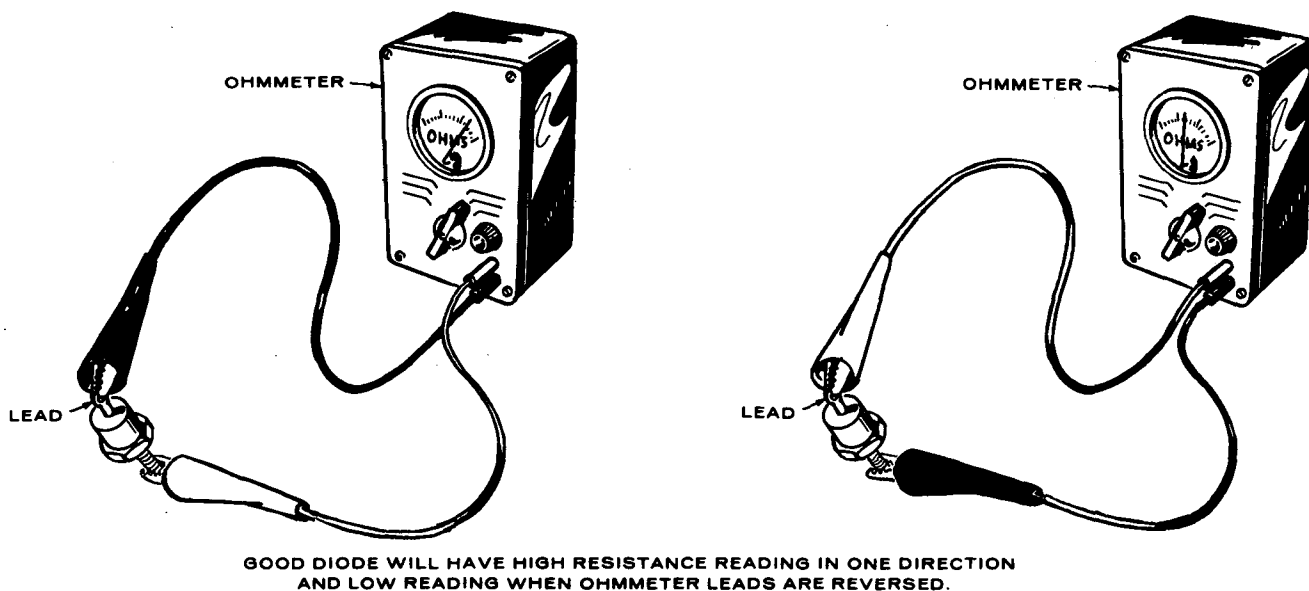

FIGURE 8. TESTING DIODES
2. Check the resistance of the diode with an ohmmeter. Connect one lead to the top of the diode and other lead to the diode stud. Observe reading. See Figure 8.